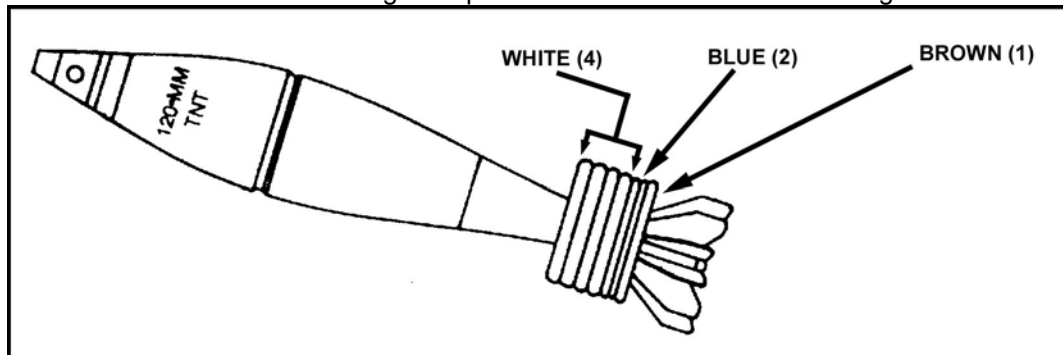

Figure 4. Composition of the charge.
- b. In order to cut charges, you must first understand the charge that comes on the round. For the 120-mm mortar, all rounds come with the following increments, which make up the charge. These increments of the charge are placed on the round as shown in Figure 4: